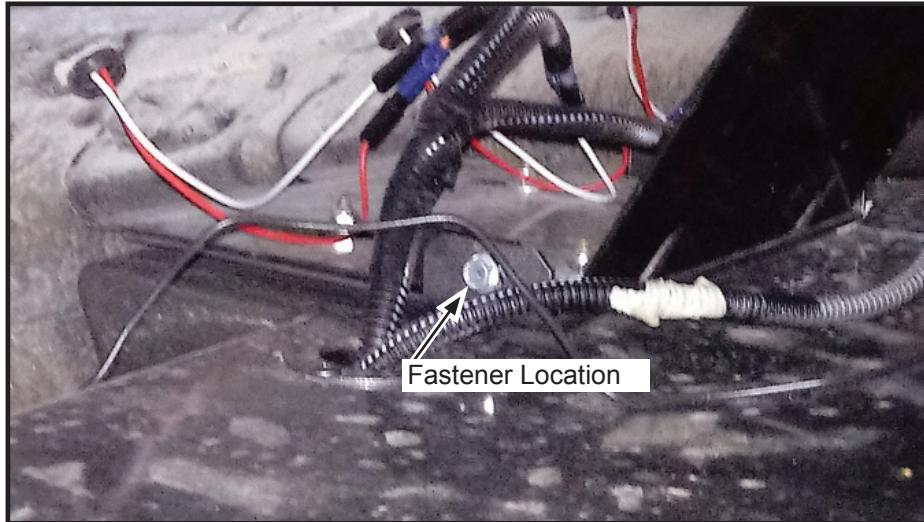

**Figure 12**
21. Torque the two bolts, installed in Step 17, to 17-20 ft-lbs. If locking nuts are not present, apply Loctite® Threadlocker Blue 242® to the threads prior to tightening. See Figure 12 for a summary of torque specifications.